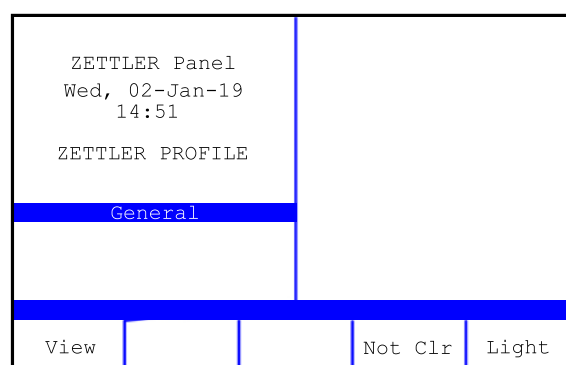

Fig. 2: Normal operation
The panel resumes normal operation, see Fig.2. There are no lit fault LEDs.
When the controller is initially powered up, with no faults or alarms in the system and the Enable keyswitch is in the **0** (OFF) position, the LCD displays the screen shown in Fig. 2.
The top-left area of the screen is the Fire window. If there are no alarms (as demonstrated in Fig. 2), the Fire window features the following items:
- The panel name text. Text is configurable with a limit of 19 characters. The panel text is set to **ZETTLER Panel** in the Fig. 2 example.
- The panel text. Text is configurable with a limit of 19 characters. The panel text is set to **ZETTLER PROFILE** in the Fig. 2 example.